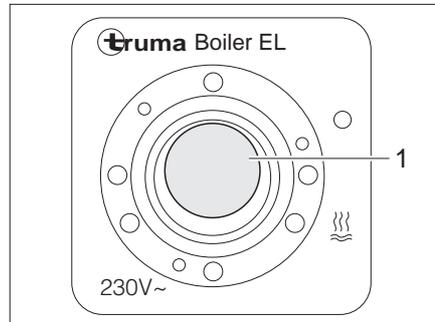

Fig. 129 Flip switch for Truma boiler (240 V electrical operation)
- Set the flip switch (Fig. 129,1) to on. The indicator lamp on the switch is illuminated. The water in the boiler is heated up to 65 °C.
- Set the flip switch (Fig. 129,1) to "0". The indicator lamp on the switch goes off.
- Set the rotary switch (Fig. 128,3) on the operating unit (Fig. 128) to "O" (Fig. 128,4) or the flip switch (Fig. 129,1) to "O".